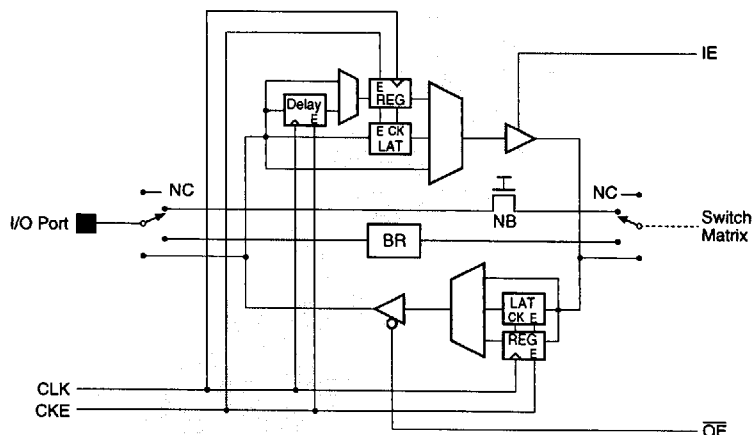

Figure 4: Programmable I/O Port
Each signal line in the Switch Matrix is connected to a programmable I/O Port. The functional attributes of individual I/O Ports can be programmed independently. The I/O Port attributes include its signal direction (in, out or bidirectional), data flow mode (flow-through, registered or latched), and pull-up current. Figure 4 shows the structure of the programmable I/O Port. The sources for the four control signals: clock (CLK), clock enable (CKE), input enable (IE), and output enable ($\overline{OE}$) are also programmable and are described later in the section on I/O Control Signals.